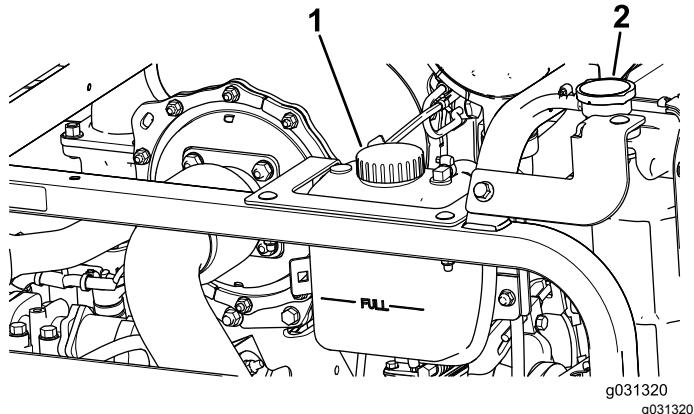

Figure 106
1. Carefully remove the radiator cap and expansion-tank cap (Figure 106).
2. Check the coolant level in the radiator (Figure 106).